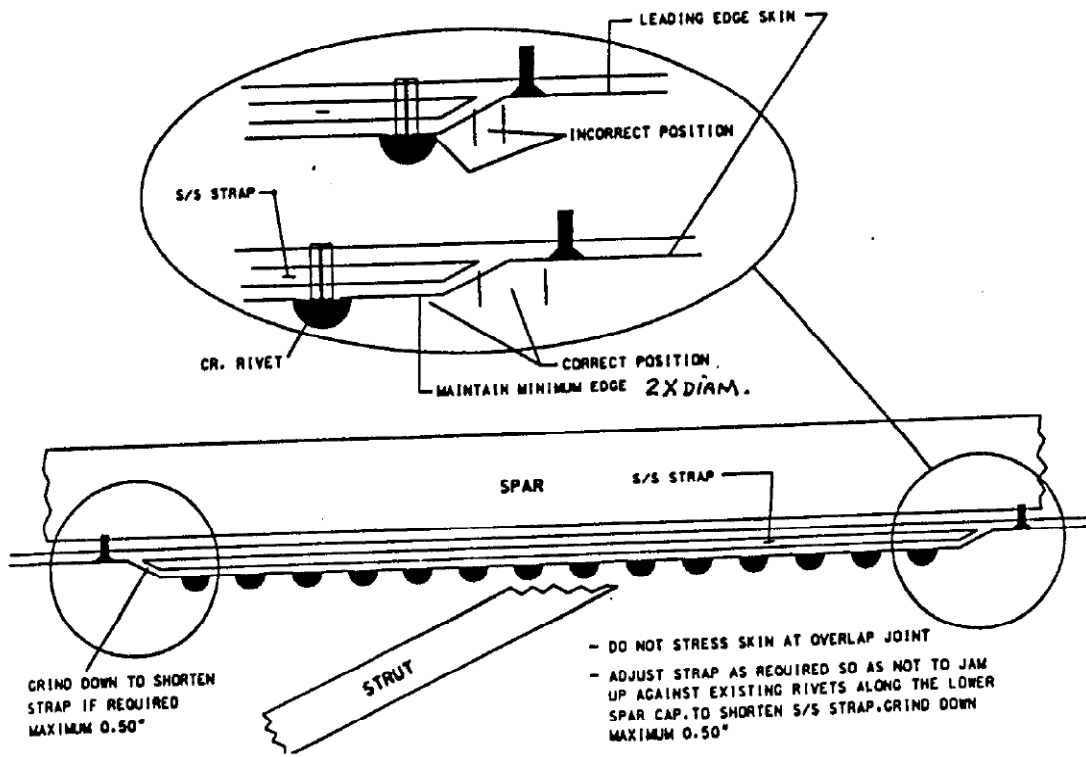

Figure 4: Positioning of Stainless Steel Strap Between Rivets
- 5) Slide the stainless steel strap under the leading edge wing skins and up against the under wing skin along the spar channel and then center the stainless steel strap on the mark made at step 1. Note that both extremities of the 16” stainless steel strap have been tapered for your convenience. If the strap is set up to tightly against an existing rivet on the underside of the spar cap, the strap is to long and must be shortened. Shorten the strap by grinding it down (a maximum of 0.50 “) in order to relieve stress load on the lower leading edge skin. On occasion, due to the proximity of other rivets, the extremities of the s/s strap may cause undesirable stress on the underside wing leading edge skins. If this occurs, remove rivet(s) in affected area and reinstall using locally fabricated aluminum shims in order to create a more gentle taper at the extremity of the stainless steel strap. (Refer to figure 4 for more details on positioning of the stainless steel strap.)